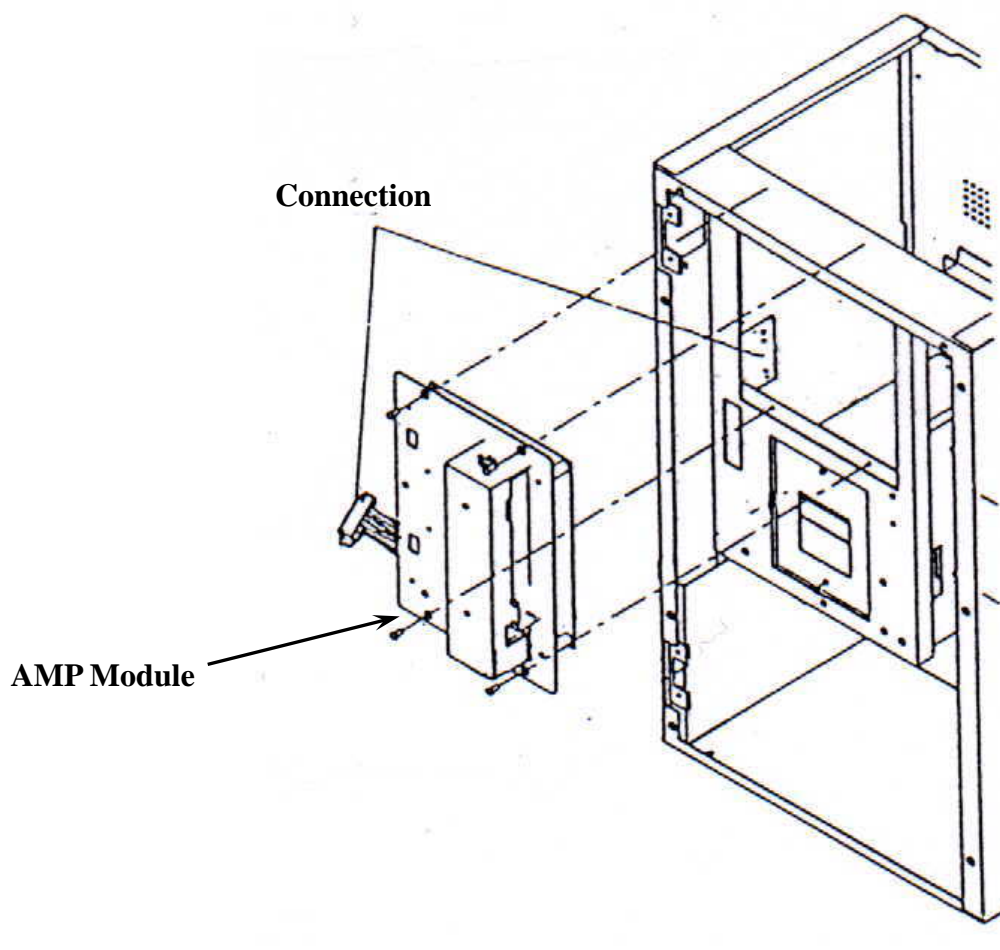

Figure 3-10. AMP Module Replacement.
5. Remove the four screws on the AMP module (Figure 3-10).
7. Disconnect the connector from the location indicated in Figure 3-10.
1. Reconnect the connector to the location indicated in Figure 3-10.
3. Fasten the four screws on the AMP module (Figure 3-10).